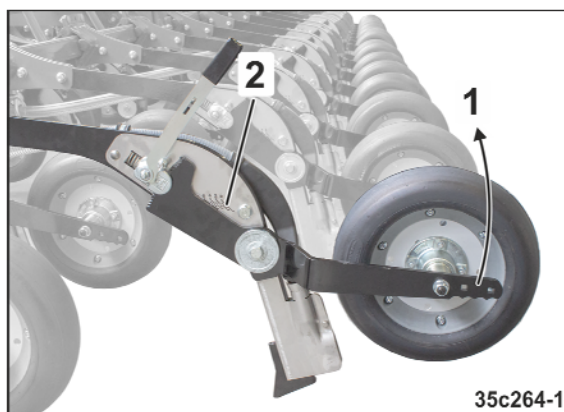

Fig. 176
4. Move the press roller to the desired position using the handle (Fig. 176/1)
6. Read the set coverage height on the scale (Fig. 176/2)